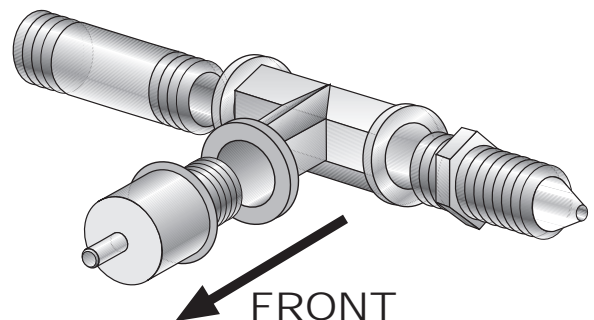

Figure: 2-a
- D. Screw the 1/4" pipe/flare fitting into the end of the TEE as shown. (See Figure 2-a.)